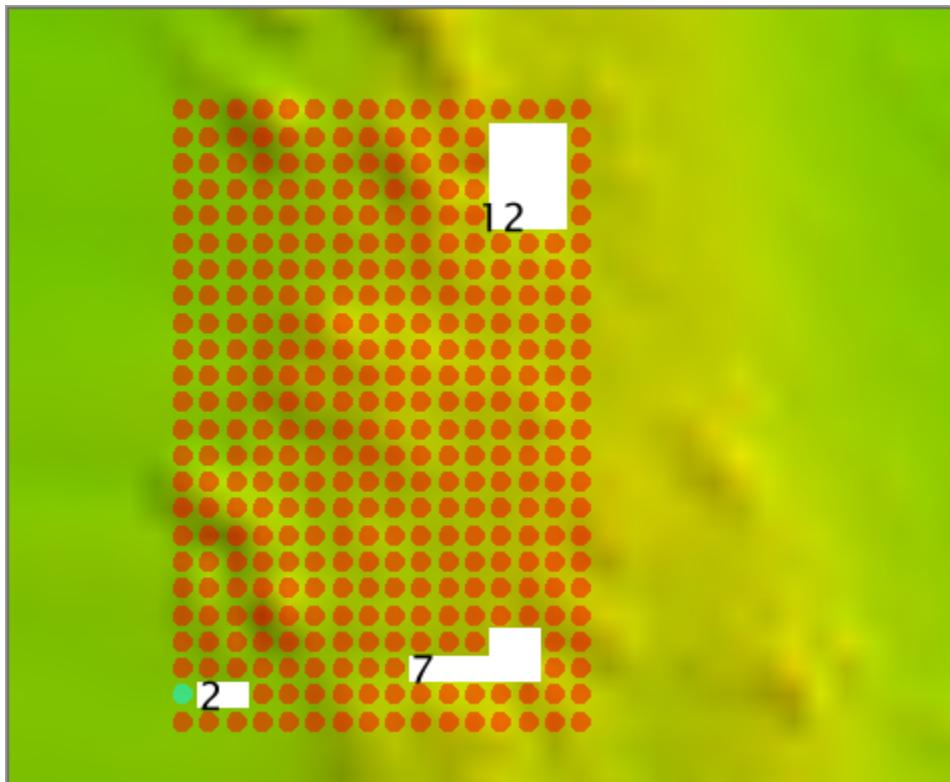

Fig. 2.20: Example for All holes.
- In the example in (Fig. 2.20), the **All holes** setting marks three holes of 12, 7, and 2 nodes.